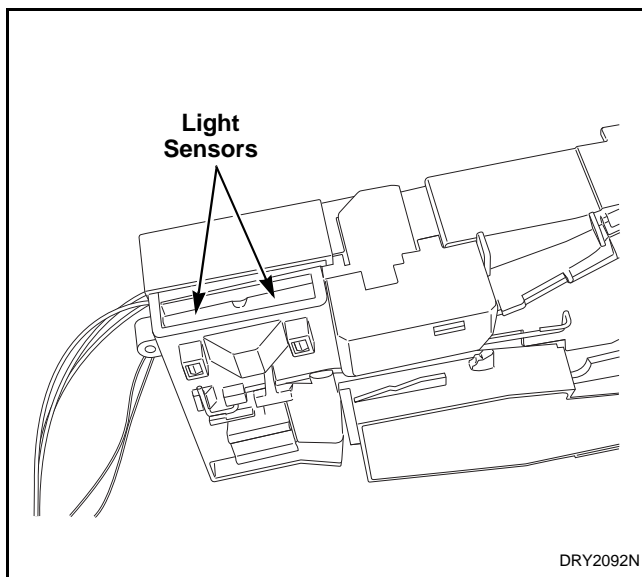

Figure 72
- g. Clean light sensors with a soft brush or air spray duster. Refer to *Figure 72*.